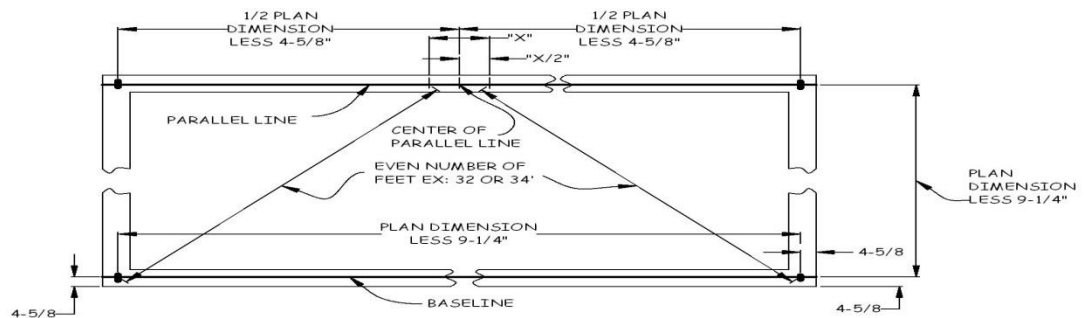

Figure 1-1. Sill Plate Chalk Lines.
1. Establish a Baseline on the longest wall. Assuming the foundation and the blueprint dimensions match, make a pencil mark $4\frac{5}{8}$ " from the outside edge of the foundation wall. Do this on both ends of the longest wall and snap a chalk line. **This Baseline is the chalk line used to establish all other chalk lines.** If the foundation and the blueprint dimensions do not match, adjust as stated above. Refer to Figure 1-1 for all steps in Section 1.1.2.